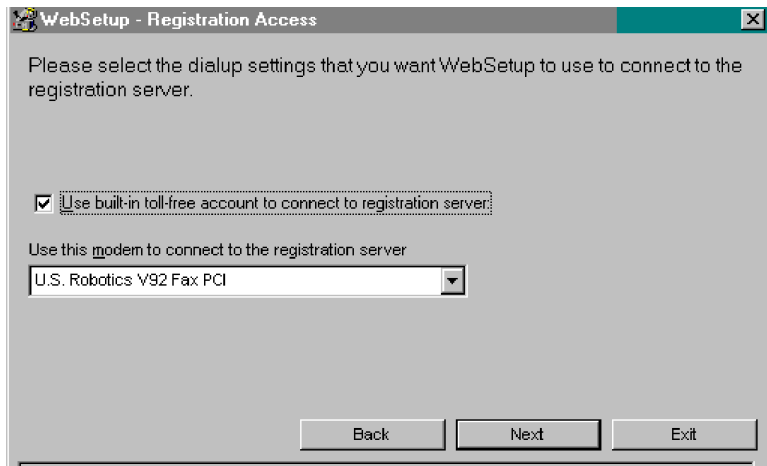

Figure 16: Dial up connection may be necessary
5. Then Websetup will check for an existing connection to WebACS. Websetup may bring up a dial-up connection if necessary. See Figure 16.